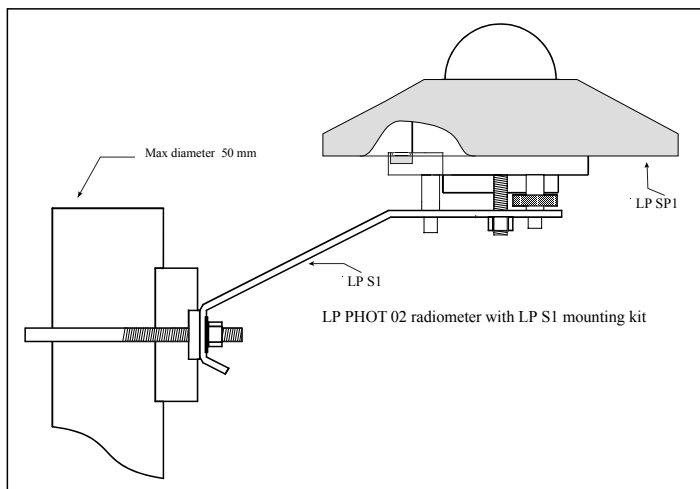

Fig. 5
- LP S1 mounting kit (fig. 5) is supplied upon demand as an accessory, and allows for an easy mounting of the probe on a mast. The mast maximum diameter shall not exceed 50 mm. The operator will check that the mast height does not exceed the probe plane, in order to avoid measurement errors due to any reflection or shadow of the mast itself. To fix the probe to the mounting bracket, remove the shade disk by loosening the three screws, then fix the probe to the bracket and mount the white shade disk again.
- The LP S1 mounting kit (figure 5), supplied on demand as an accessory, allows an easy mounting of the radiometer on a mast. The mast maximum diameter shall not exceed 50 mm. The operator shall take care that the mast height does